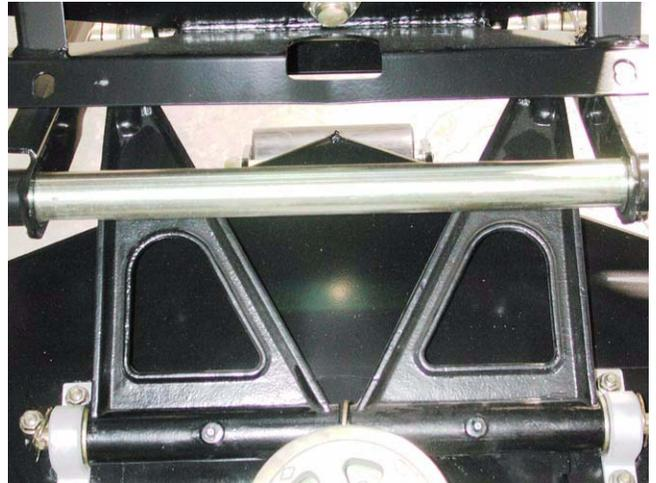

Figure 9.9
- 9.9. The arms themselves are cast iron, and the lift-shaft is heavier. See Figure 9.9.